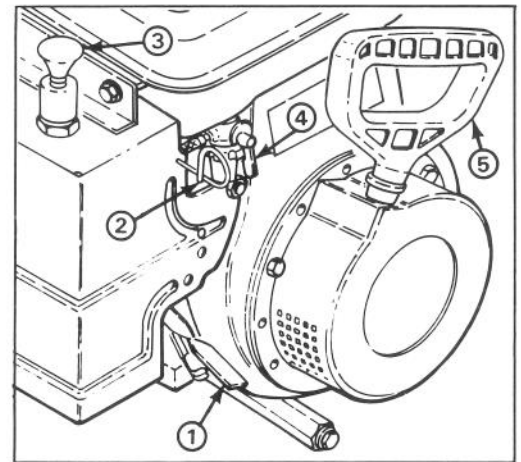

Figure 10
Throttle (Fig. 10) — Moving the throttle upward increases the engine speed.
Choke (Fig. 10) — Choke is located on back of engine cover. Pull choke out to FULL choke position to start a cold engine. As engine warms up, push choke in gradually to OFF.
Primer (Fig. 10) — Pull primer up to pump small amount of gasoline into engine for improved cold weather starting.
Fuel Shut-Off Valve (Fig. 10) — Valve is located under fuel tank. Close valve to stop fuel flow from fuel tank and open valve to allow fuel to flow to the carburetor. Close valve when snow-thrower is not used.
Recoil Starter (Fig. 10) — Recoil starter is on back side of engine. Pull recoil starter to start engine.
3. Pull choke out to full choke position (Fig. 10).
5. Pull primer (Fig. 10) once if temperature is between 0° and 10°F and twice if temperature is below 0°F.
6. Grasp recoil starter handle (Fig. 10) and pull it out slowly until positive engagement results; then pull vigorously to start the engine. Keep firm grip on starter handle and return the rope slowly.
7. After engine starts, push choke in (Fig. 10) to 1/2 position for 10-30 seconds, then completely in.